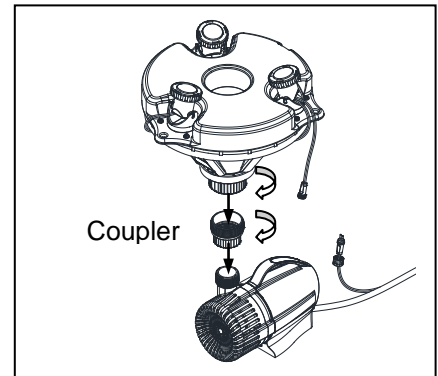

Fig. 1
1. Remove assembled fountain from packaging and connect pump to floating attachment assembly with coupler. Fig. 1